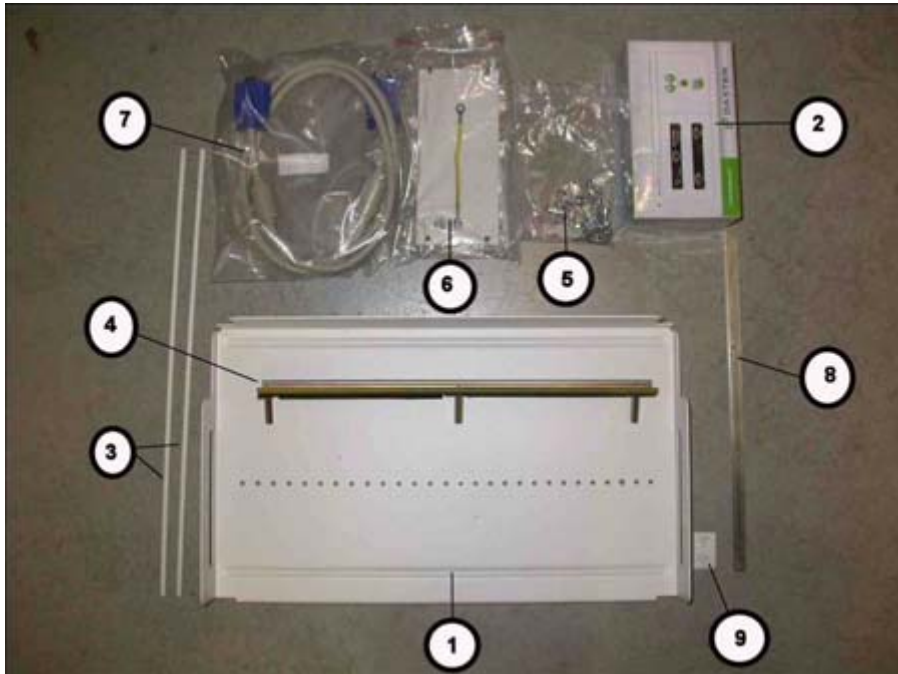
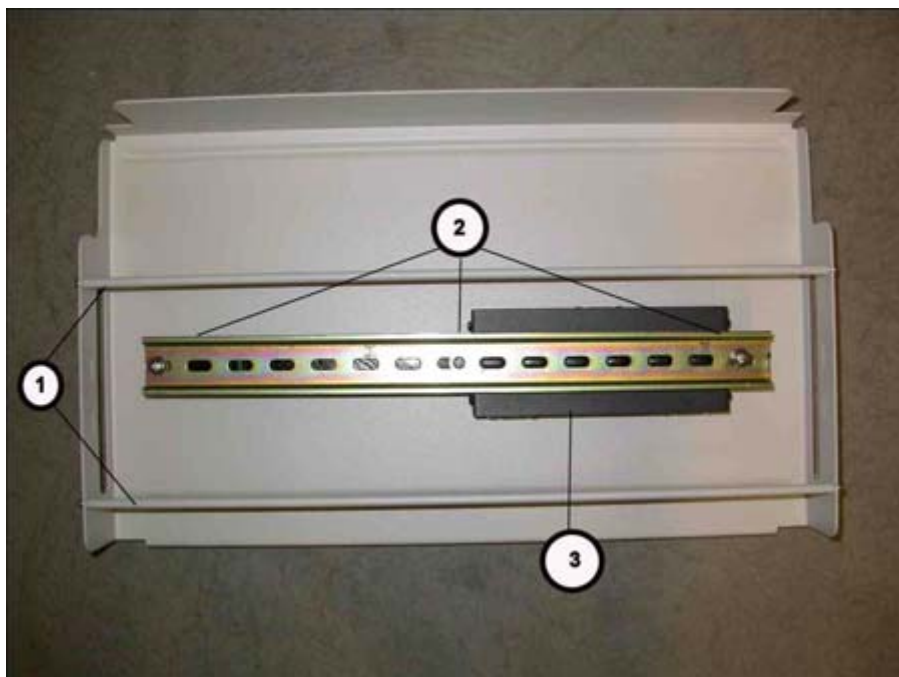
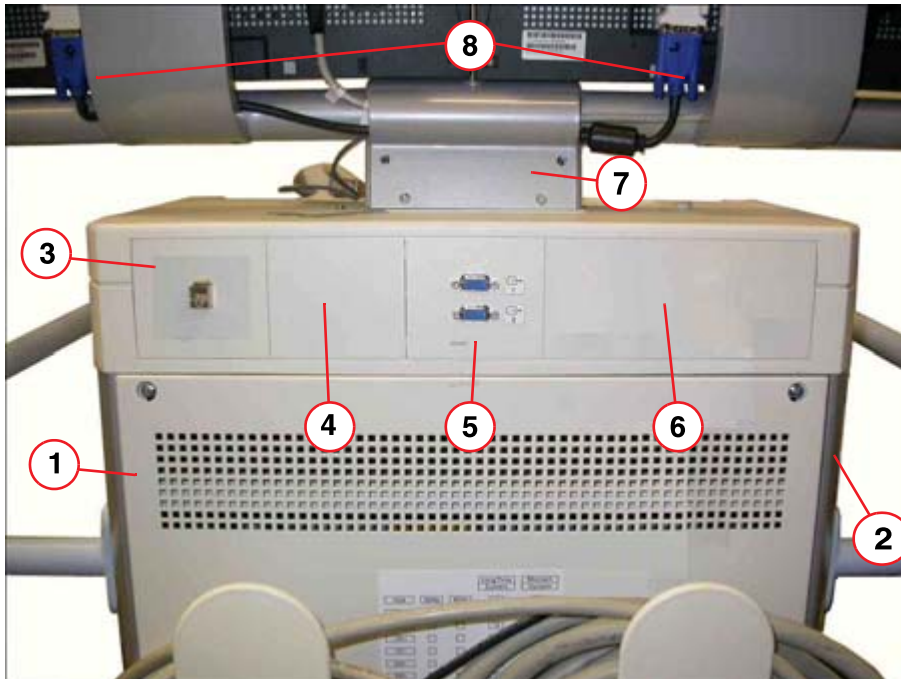
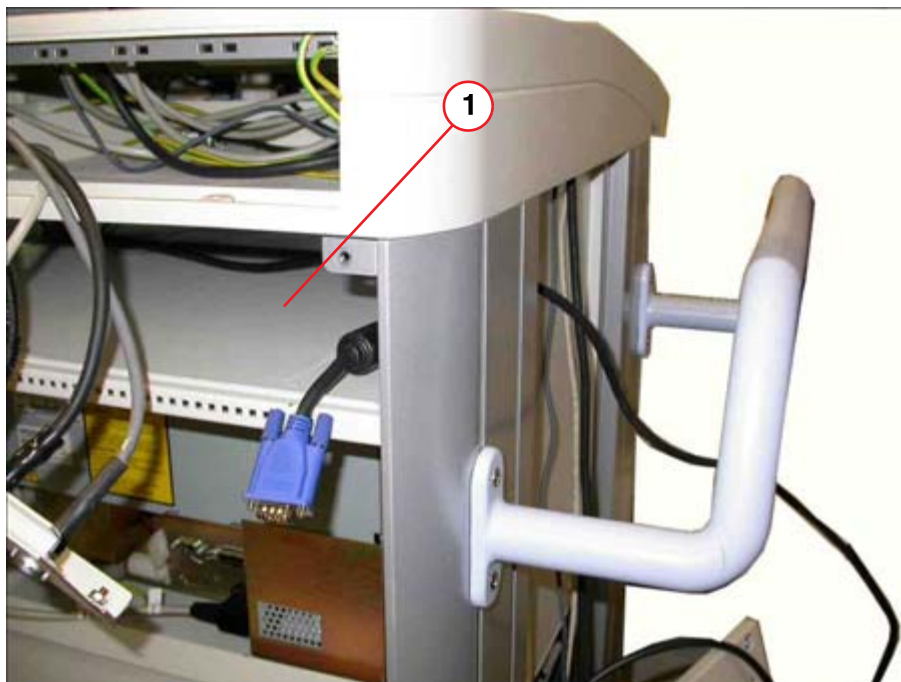

Fig. 2: Preparing the installation frame
Fig. 3: Preparing the installation frame
Fig. 6: Monitor trolley, rear
Fig. 7: Pulling in the video cables
Fig. 2 shows the contents of the Video splitter low end live kit, 86 70 829.
- Remove the installation frame 1/ Fig. 2.
- Attach the two struts 3/ Fig. 2 to both sides of the installation frame, as shown in 1/ Fig. 3. Use the screws and washers included in the accessory kit 5/ Fig. 2.
- Attach the holder 4/ Fig. 2 to the installation frame, as shown in 2/ Fig. 3. Do so by screwing the threaded hex bolts (if not yet installed) onto the holder and installation frame.
- The video splitter 2/ Fig. 2 is held fast by the holder 4/ Fig. 2. See 3/ Fig. 3.
- Affix the safety label included in accessory kit, in the appropriate local language, directly underneath the video sockets. See 5/Fig. 6.
- Unscrew the cover panel 7/Fig. 6 at the foot of the monitor support.
- Unscrew and detach from the monitor the VGA plug of the existing video cable of the left-hand monitor (live monitor). See 8/Fig. 6. Pull the video cable out through the foot of the monitor support and run it to installation bay 1/Fig. 7. Label the cable or the plug: "LIVE IN". The other end of this VGA cable remains plugged into the graphics card of the image processor.
- Run the video cable included in the accessory kit 7/Fig. 2 from the installation bay 1/Fig. 7 through the foot of the monitor support to the live monitor, plug it in, and secure the screws. Label the end of the cable in the bay: "LIVE MON".
- Run the video cable included in the video splitter package from the installation bay 1/Fig. 7 to the interface terminal, plug it into the upper VGA socket and secure the screws. Label the end of the cable in the bay: "LIVE VGA socket"
- Affix the sticker marked "1," included with delivery (see 9/Fig. 2), to the right of the upper VGA socket.
- Unscrew and detach from the monitor the VGA plug of the existing video cable of the right-hand monitor (reference monitor). See 8/Fig. 6. Pull the video cable out through the foot of the monitor support and run it to installation bay 1/Fig. 7. Label the cable or the plug: "REF IN". The other end of this VGA cable remains plugged into the graphics card of the image processor.
- Run the video cable included in the accessory kit 7/Fig. 2 from the installation bay 1/Fig. 7 through the foot of the monitor support to the reference monitor, plug it in, and secure the screws. Label the end of the cable in the bay: "REF MON".
- Run the video cable included in the video splitter package from the installation bay 1/Fig. 7 to the interface terminal, plug it into the lower VGA socket and secure the screws. Label the end of the cable in the bay: "REF VGA socket"
- Affix the sticker marked "2," included with delivery (see 9/Fig. 2), to the right of the lower VGA socket.
- Take the cables (Fig. 7) included in the video splitter accessory kit and run them from the installation bay 1/ Fig. 7 to the imaging system. Run the cable end with the molded-on PS2 plug and the molded-on PS2 coupling to the imaging system.
- Slide the installation frame with the video splitters into the installation bay 1/ Fig. 7.